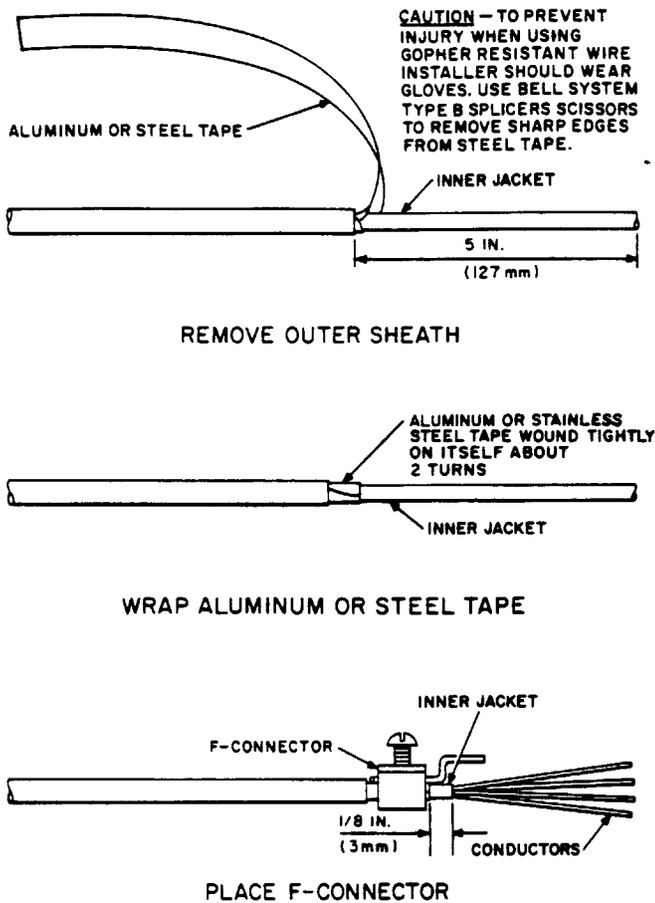

**Figure 45—Acceptable Protector Grounding Connections When Power Service Is Not Grounded, Power Service Grounds Not Accessible, or There Is No Power at Premises**
**6.08** Telephone service may be installed where a power ground is not provided or is inaccessible. However, the customer should be informed immediately of the need for a power ground and requested to notify the telephone company when the ground has been provided. The procedure for completing the exchange of information shall be covered by local instructions as shown in Figure 44. Station protectors installed where there is no power, or the power ground is inaccessible, should be grounded as shown in Figure 45.